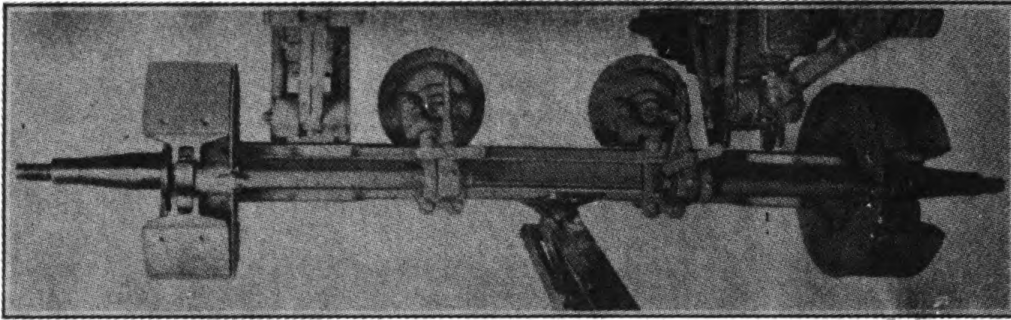

FIGURE 9. REPLACING AXLE
5. AXLE REPLACEMENT (Fig. 9).—*a.* Hoist up the trailer at the front of the gear frame and remove wheel and hub assemblies.